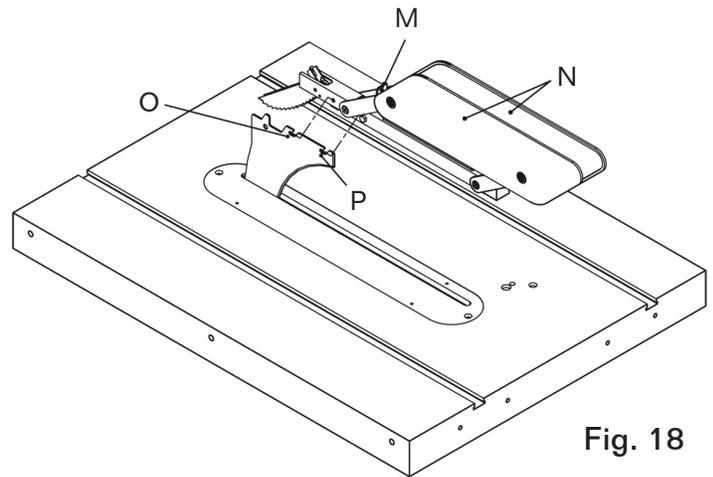

**Fig.17 (set screw for adjusting riving knife)**
- Use the set screws shown in Figure 17 to adjust the riving knife bracket and re-install the riving knife.